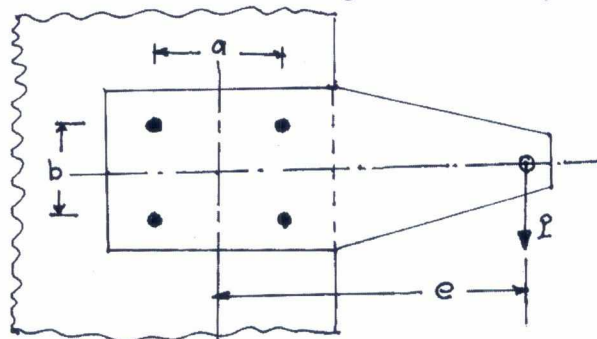

Fig.Q4(b)
- b. The structural joint shown in Fig.Q4(b) is subjected to an eccentric load P of 10 kN with an eccentricity of 500 mm from the center of gravity of the bolts arrangement. Distance between the bolts is 200 mm and 150 mm perpendicular and parallel to the direction of the load acting. Bolts are identical and made of plain carbon steel having yield strength of 400 N/mm^2 . Determine the size of the bolts taking factor of safety as 2.5.